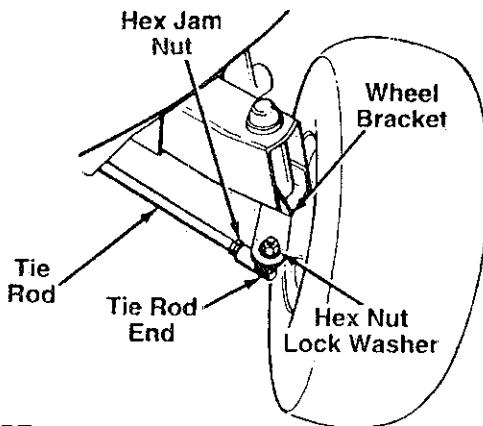

FIGURE 16
1. Remove the hex nut and lock washer, and drop the tie rod end from the wheel bracket. See figure 16